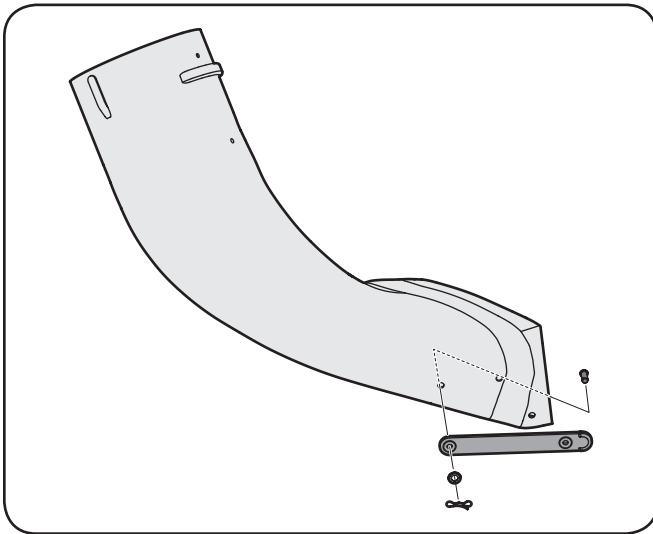

Figure 4-20
- Install the rubber chute strap (723-04008A) onto the chute elbow using clevis pin (711-05063), washer (736-0204) and Bow-tie cotter pin (714-04040) from hardware pack 689-00091. See Figure 4-20.